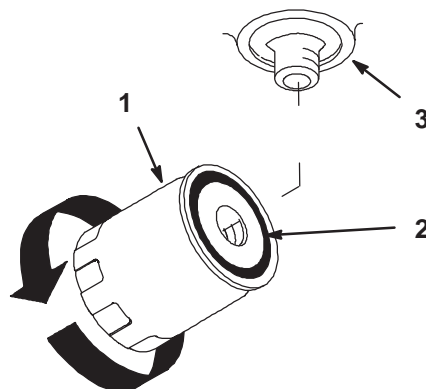

Figure 49
4. Apply a thin coat hydro fluid to the rubber gasket on the replacement filter (Fig. 49).
7. When fluid overflows filter turn the oil filter clockwise until the rubber gasket contacts the filter adapter, then tighten the filter an additional 1/2 turn (Fig. 49).